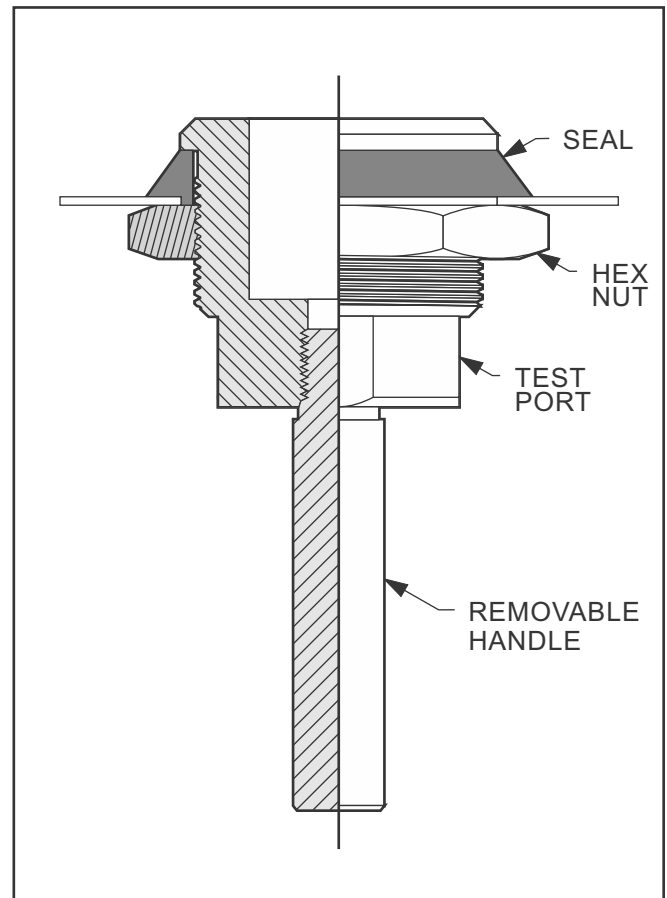

Fig. 48: 2" Test Port Cut-away view
5. Torque Clamp Nut: Final tightening must be done with a calibrated torque wrench. The recommended torque for 2" & 3" EZ clamps is 75 in lbs (6.25 ft lbs or 0.9 m kg). (Fig. 48)